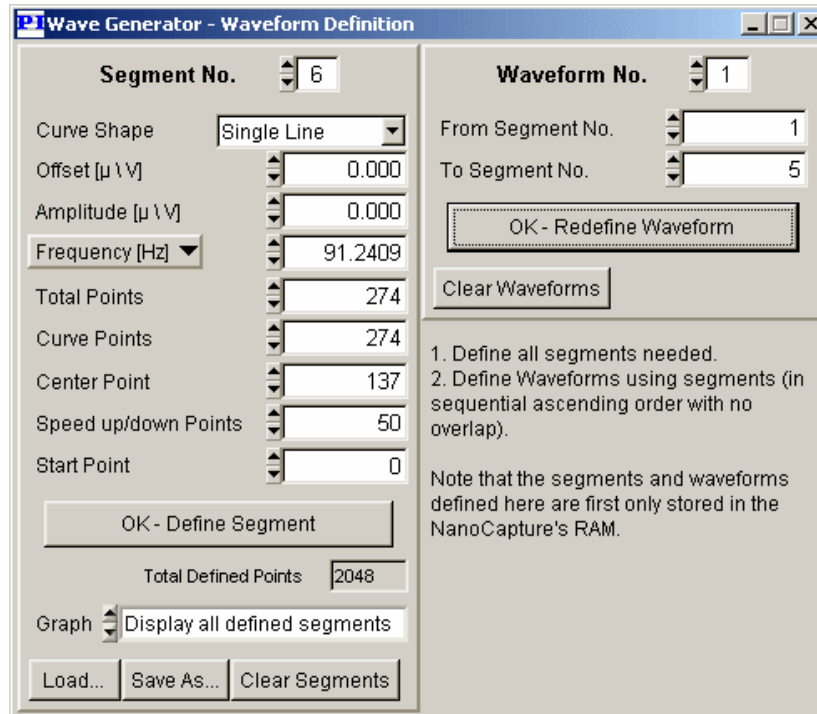

Fig. 31. Window opened by the Waveform Definition button on the main screen (Advanced Waveform must be selected in the main screen Action field)
1. First use the *Waveform Definition...* button to open a window (Fig. 31) which makes it possible to define one or more *waveforms* consisting of multiple concatenated *segments*, with each segment containing a *curve* that you select.